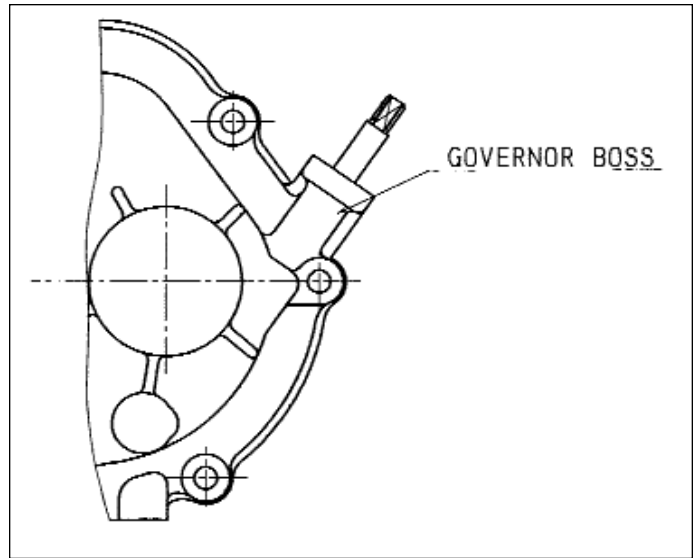

**Figure 22 - Case Bolts**
4. Support transaxle by gear case with input shaft pointing down. Loosen and remove all case bolts. See Figure 22.